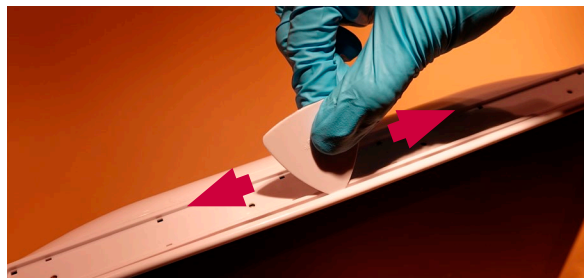

Figure 7 Releasing the back casing using the plectrum tool
f) Remove the back casing (Figure 7)